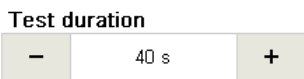

Figure 143
**Test duration:** Defines the length the time the test will be conducted (Figure 143). Test duration can be configured in 5 s increments from 30 s to 100 s.